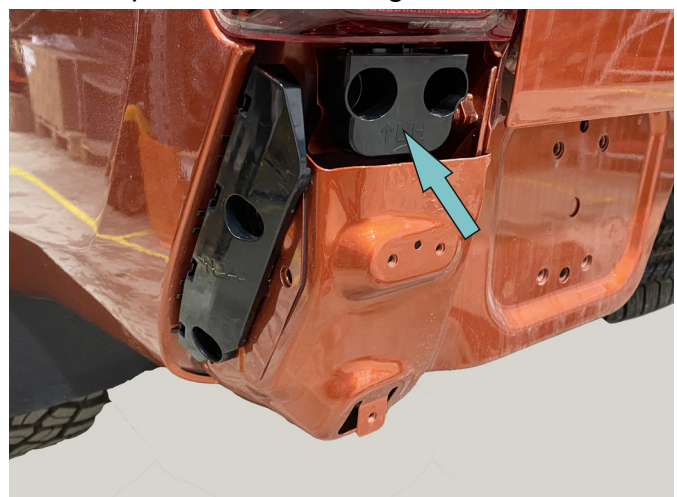

Fig. 6
6. Remove pads under rear lights on the left and right side of the vehicle (Fig. 6).